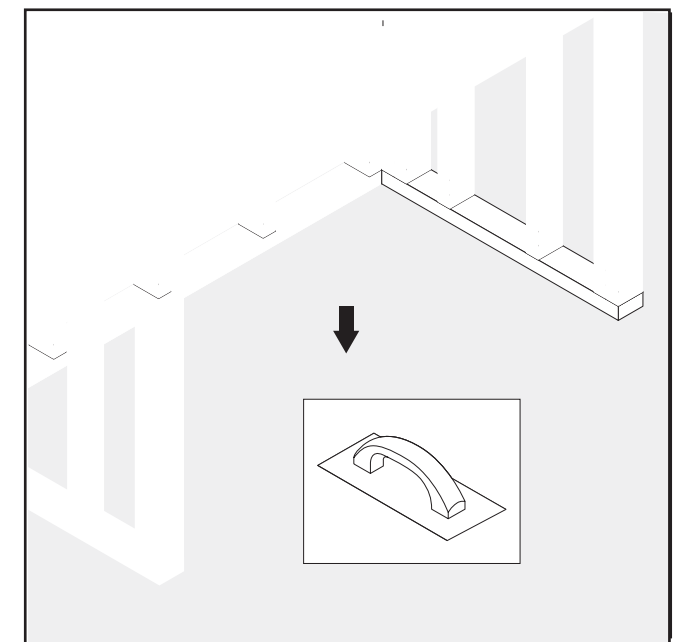

Fig. 4
- Apply a generous amount of mortar that has been mixed to a thick consistency. Lower the shower base into position with the drain assembly sliding over the waste pipe. It will be necessary to "rock" the shower base until the top of the tile flange aligns with the lines drawn in Step 2 on the stud walls. Make certain the apron is contacting the rough floor along the entire length of the shower base. Ensure that the base is level in two directions. Place the drain cover back into place and check for proper drainage. Let the mortar cure for 24 hours. Proceed to the next step. (Fig 4)